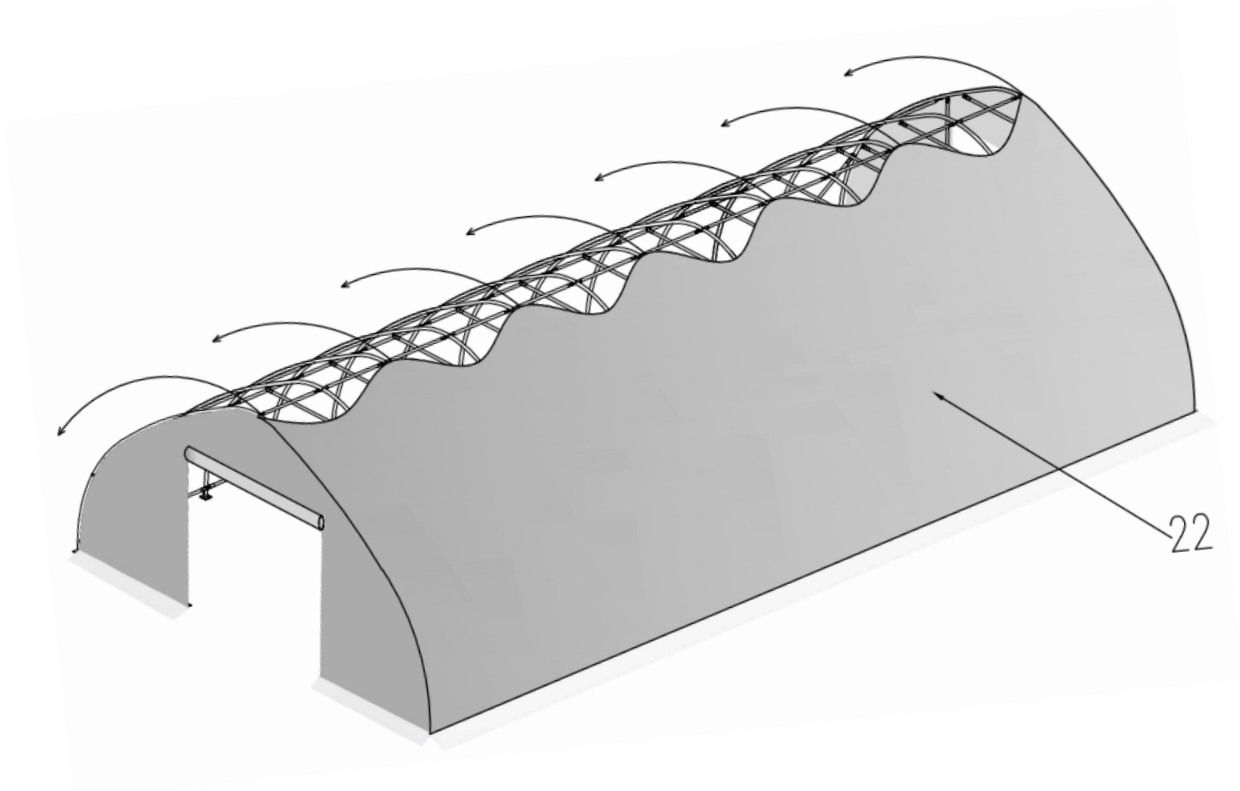

Figure 11
- Use 3 to 5 ropes (#24) to pull the top cover (#22) the top of the structure, 2 or 3 people standing inside on ladders to push upwards will help to move the cover smooth without any damage (figure 11)